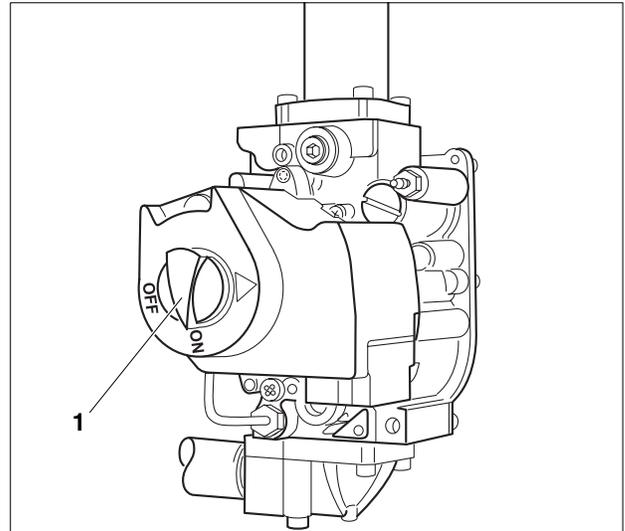

Fig. 29 Gas control valve
After 90 seconds, the module should go into lock out mode and the spark should stop. Disconnect the electric power to the appliance. Open the main gas shutoff valve. Turn on the electric power to the unit. A normal operating sequence should occur. If the gas control functions satisfactorily then go to step 15. If the gas control does not function satisfactorily, immediately turn the gas control knob (Fig. 29,
15. Turn the gas control knob (Fig. 29, **Item. 1**) counterclockwise to "OFF".
19. Repeat steps 1 to 6, and 13 to place the appliance back in operation. Check the plugs in the gas control with a soap and water solution. If no leaks are found go to step 21. If any leaks are found, shut off the main gas piping shut-off valve and turn off all electric power to the appliance and turn the gas control knob clockwise to "OFF" (Fig. 29, **Item. 1**).
4. Turn gas control knob (Fig. 29, **Item. 1**) clockwise to "OFF". Do not force.